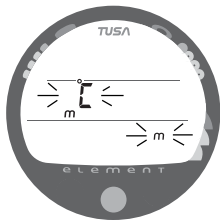

Fig. 19 - SET UNITS OF MEASURE
- After having set and accepted Wet Activation, the Set Units screen appears with the Set Point flashing (Fig. 19).